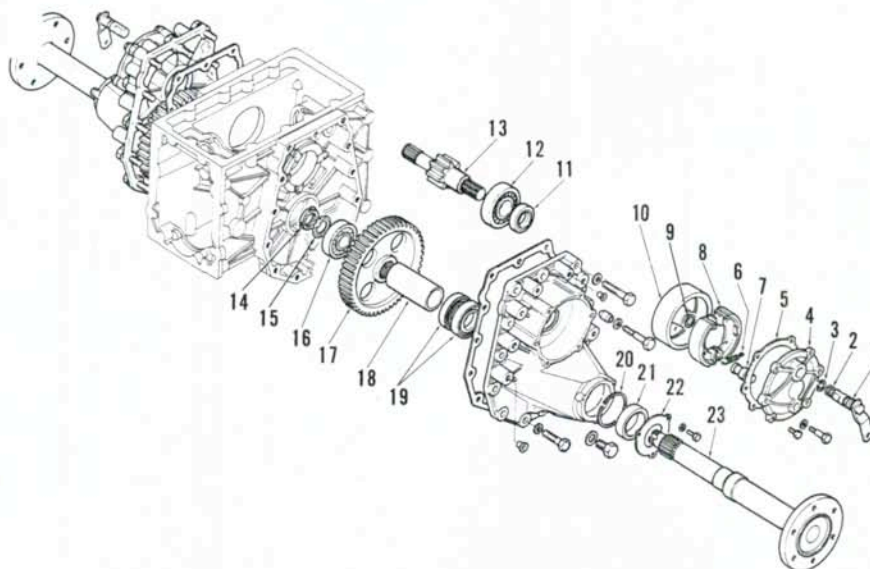

Fig. 231—Exploded view of final drive and brake used on 1100, 1110, 1200 and 1210 models.
153. OVERHAUL. To disassemble final drive unit after it is removed, proceed as follows: Remove nut (14—Fig. 231) from axle shaft. Pull bearing (16), final drive gear (17) and collar (18) from axle, then withdraw axle (23) from bearings (19) and housing. Oil seal (21) can be removed after removing retainer (22).
162. Refer to Fig. 231, 232, 234, 235 or 235A for an exploded view of brake components. To disassemble, disconnect brake control rod from brake cam lever (1). Unbolt and remove brake cover (4) and brake shoes (8) as an assembly. Snap ring (9) retains brake drum (10) on pinion shaft (13).